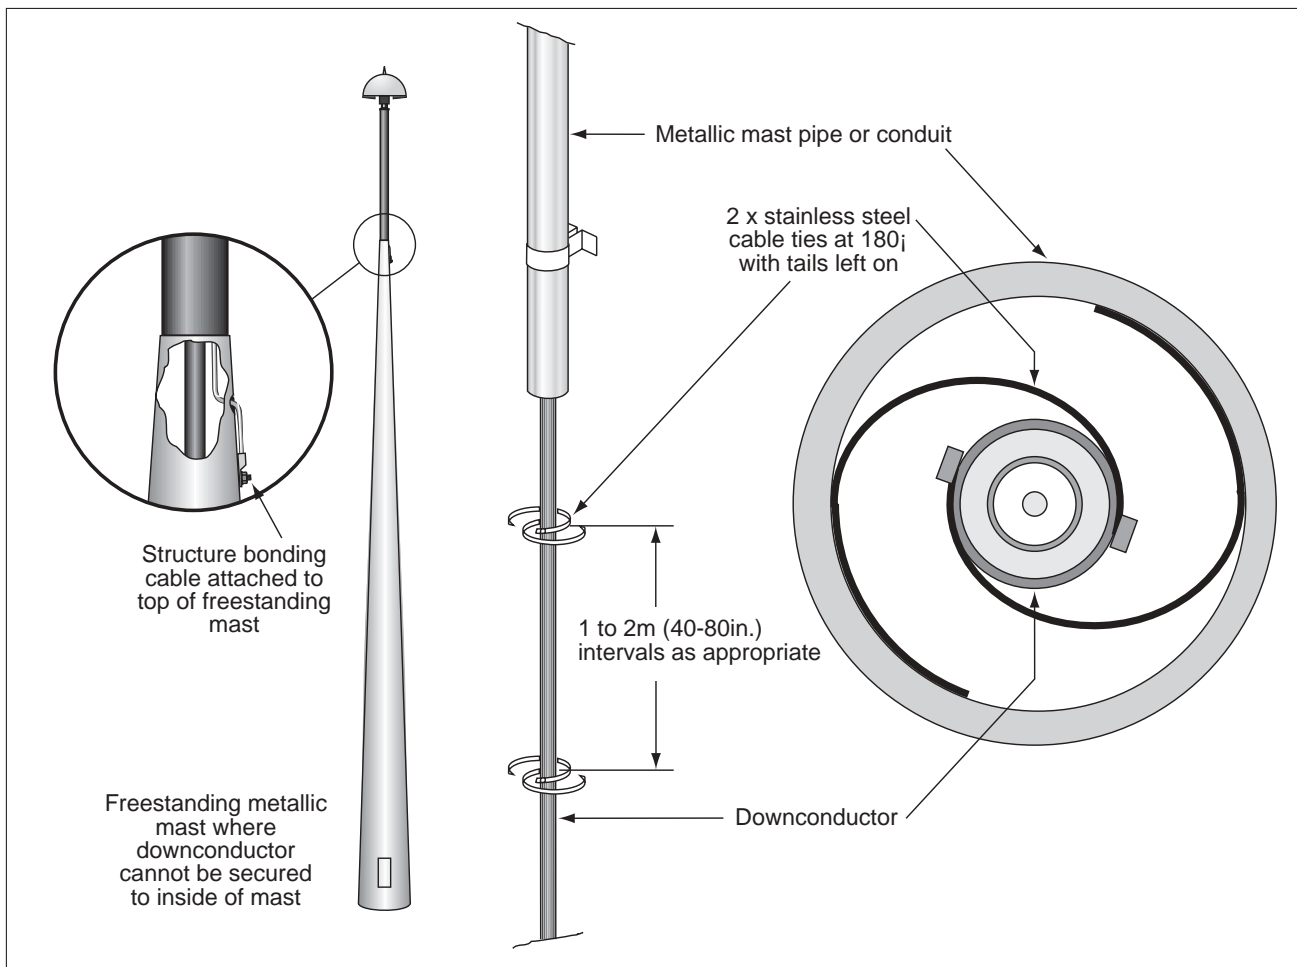

Figure 17: Electrical bonding of downconductor within metallic mast section or pipe.
- Connect the Structure Bonding Braid to the top of the free standing mast using 6mm² insulated copper cable. See figure 17
- This includes routing inside any type of conductive pipe or conduit (see Fig. 17).
Also, if the downconductor can not be secured or bonded to the inside of a metallic mast (ie: free standing light pole), the structure bonding braid must be connected to the top of the metallic mast using 6mm² (8 AWG) insulated copper cable. See Figure 17.
To bond the downconductor inside a conductive mast pipe or conduit, secure two stainless steel cable ties around the downconductor at every 1m (40 in.) or at 2m (80 in.) intervals with their tails left on, aligned at 180° to each other so that when fed into the pipe, they maintain contact with the inside wall of the pipe. See Figure 17.